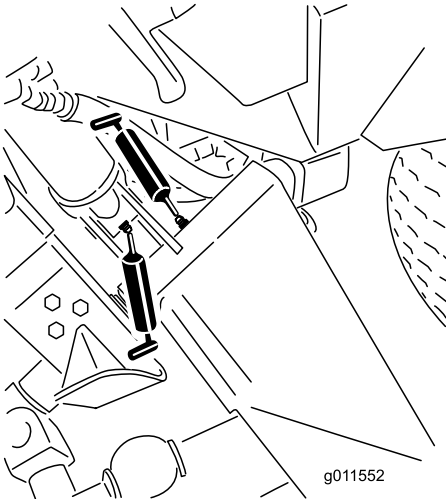
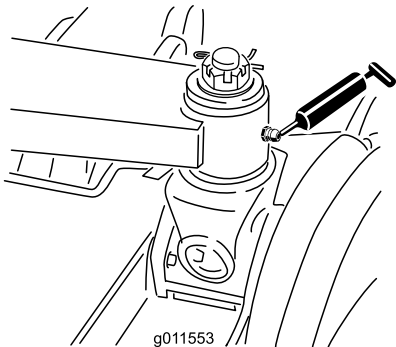

Figure 85
Figure 86
- 6 main lift-arm bushings (Figure 85 and Figure 86)